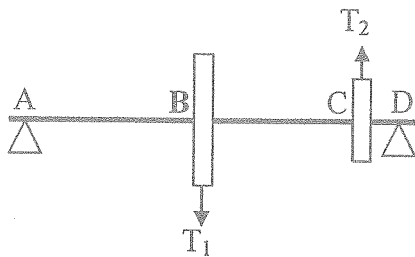

Figure Q1
- (ii) A simply supported shaft AD transmits torque between two pulleys with one pulley at its mid span B and the other close to one support at C as shown in Figure Q1. The belt drives pull the shaft with tensions T_1 and T_2 . With the aid of sketches, indicate all possible stresses induced in the shaft AB . [2.5 Marks]